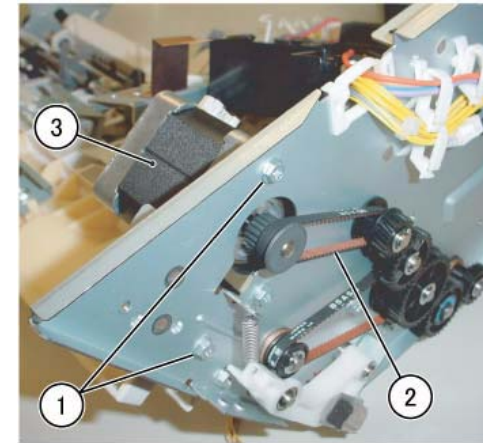

Figure 2 Removing the Transport Motor
7. Remove the Transport Motor (Figure 2):